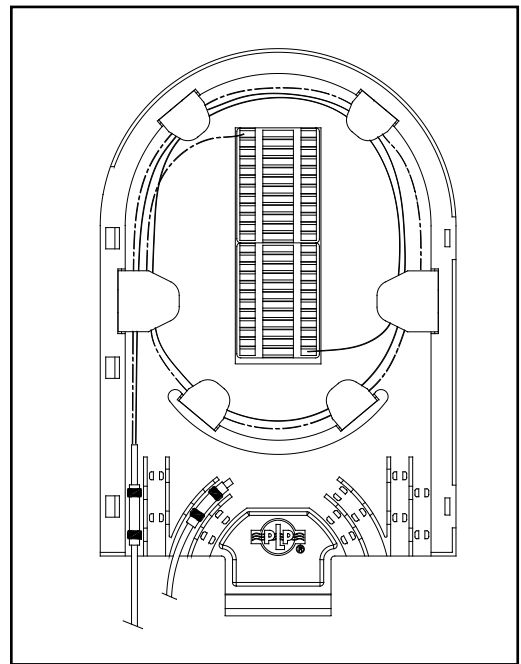

FIGURE 27 - ROUTING FIBERS FROM THE OFFICE BUFFER
12.07 Route fibers 1-12 of the office buffer tube 1-1/4 times clockwise around the splice tray entering the upper splice block from the left side. Route fibers 13-24 of the office buffer tube 1-3/4 times clockwise around the splice tray entering the lower splice block from the right. (Figure 27)